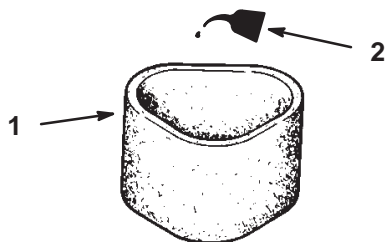

Figure 28
- Put one or two ounces of oil on the element (Fig. 28). Squeeze the element to distribute the oil.